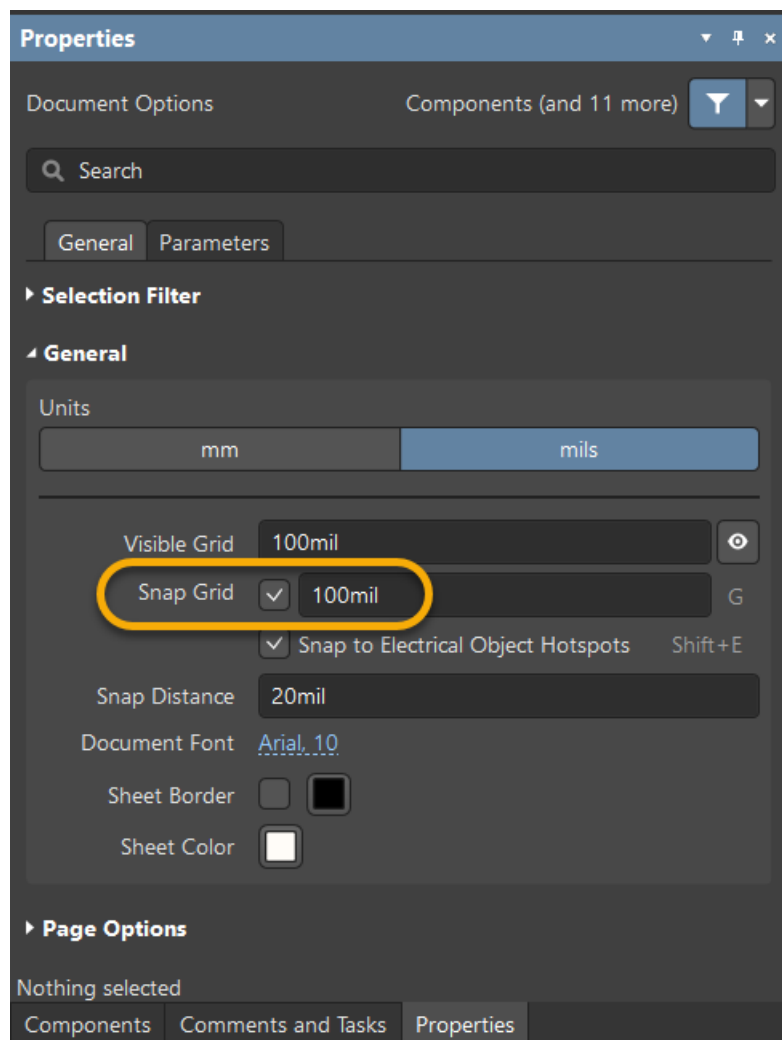

Figure 2. Set the Snap Grid to 100mil
- b) In the *General tab*, check that **Snap Grid** value is `100mil`, as shown in Figure 2.